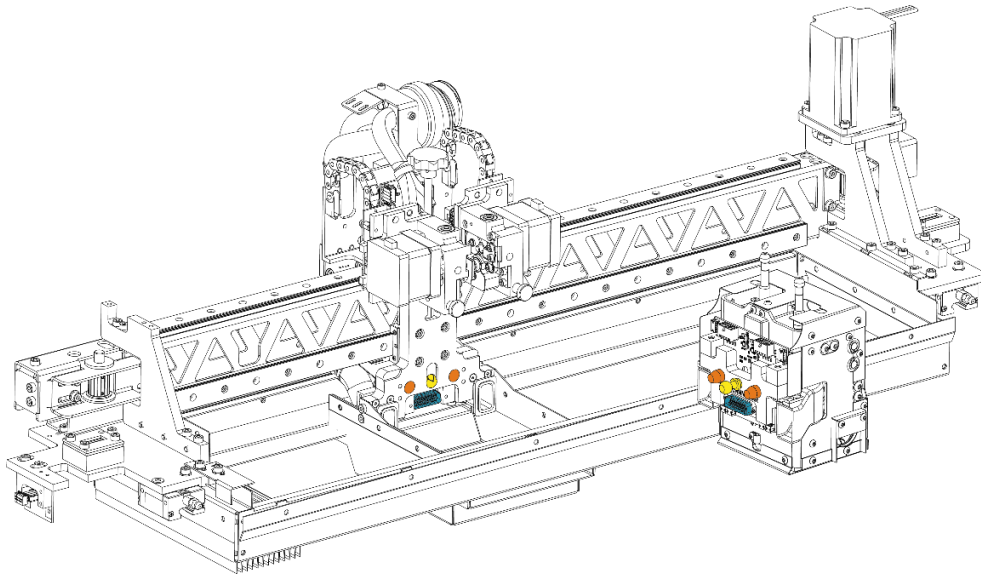
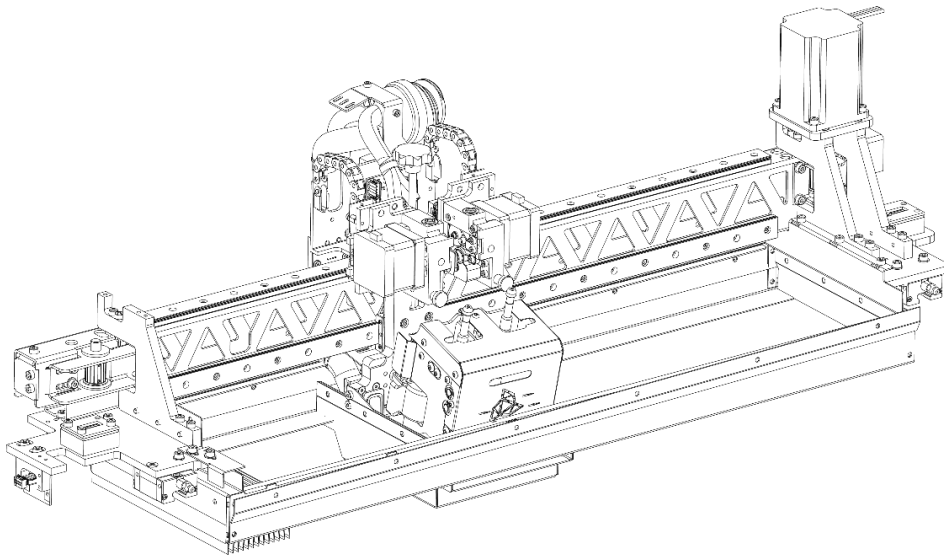

Fig. 67 Printing module installation
Fig. 68 Printing module installation
7. Insert the module at an angle into the module working space (Fig. 68). Straighten the module so that the ball pin (Fig. 67, yellow) enters its slot in the mounting plate (Fig. 67, yellow). Gently press the module against the mounting plate so that the two positioning pins (Fig. 67, orange) and the signal socket (Fig. 67, blue) are inserted into the mounting plate. Be careful not to scratch the front housing of the module during installation.